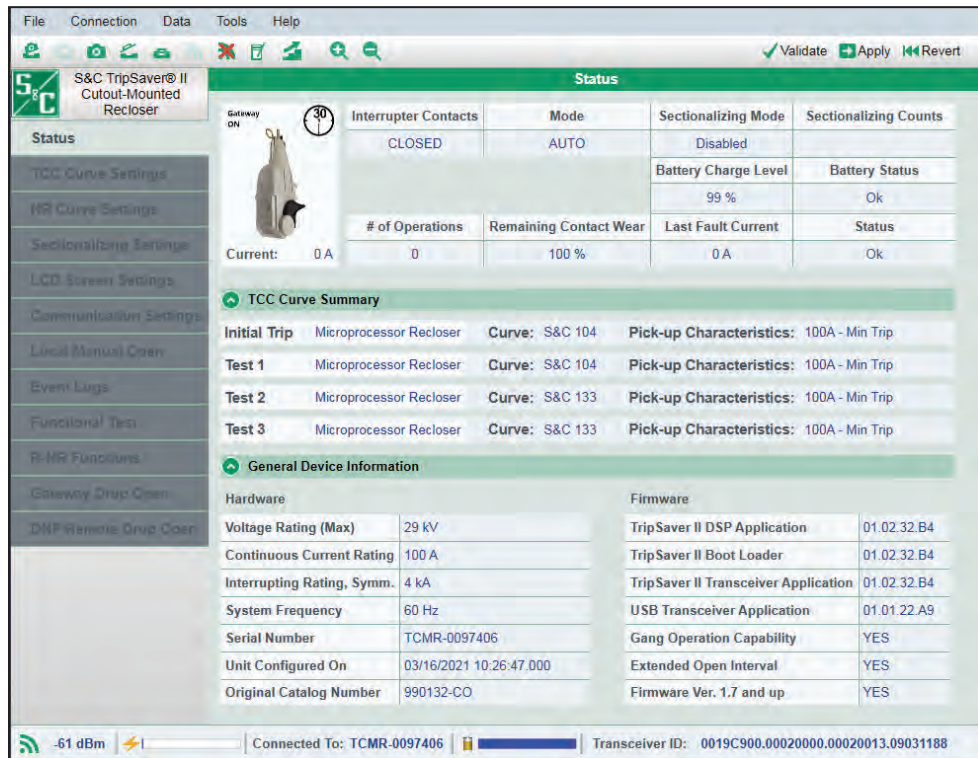

Figure 119. The Status screen.
The *Status* screen is available under the **Connected** (online) mode or when a snapshot file is open. When a TripSaver II recloser is connected, the *Status* screen will be the first screen to open, and it will populate with data from the TripSaver II recloser. The *Status* screen presents status information, a summary of TCC curve settings, and general recloser information. This screen is view-only; there are no data-entry fields. See Figure 119.
**Photo.** Depending on the TripSaver II recloser, a photo of either a 15-kV (15.5-kV max) or 25-kV (29-kV max) recloser will be displayed. If a TripSaver II recloser is furnished with the **Extended Open Interval** option (“-O”), a black and white clock face icon indicating “30s” will be displayed on the top right side in the photo frame. See Figure 119 on page 84 and Figure 121.
**Current, A.** This is the instantaneous magnitude of the current flowing through the control, in primary amperes. It’s located below the photo. Current displayed will typically be 0 A~1 A when the TripSaver II recloser is being powered by the power module during configuration. See Figure 119 on page 84.
**# of Operations.** This indicates the number of vacuum interrupter open operations registered in total. See Figure 119 on page 84.